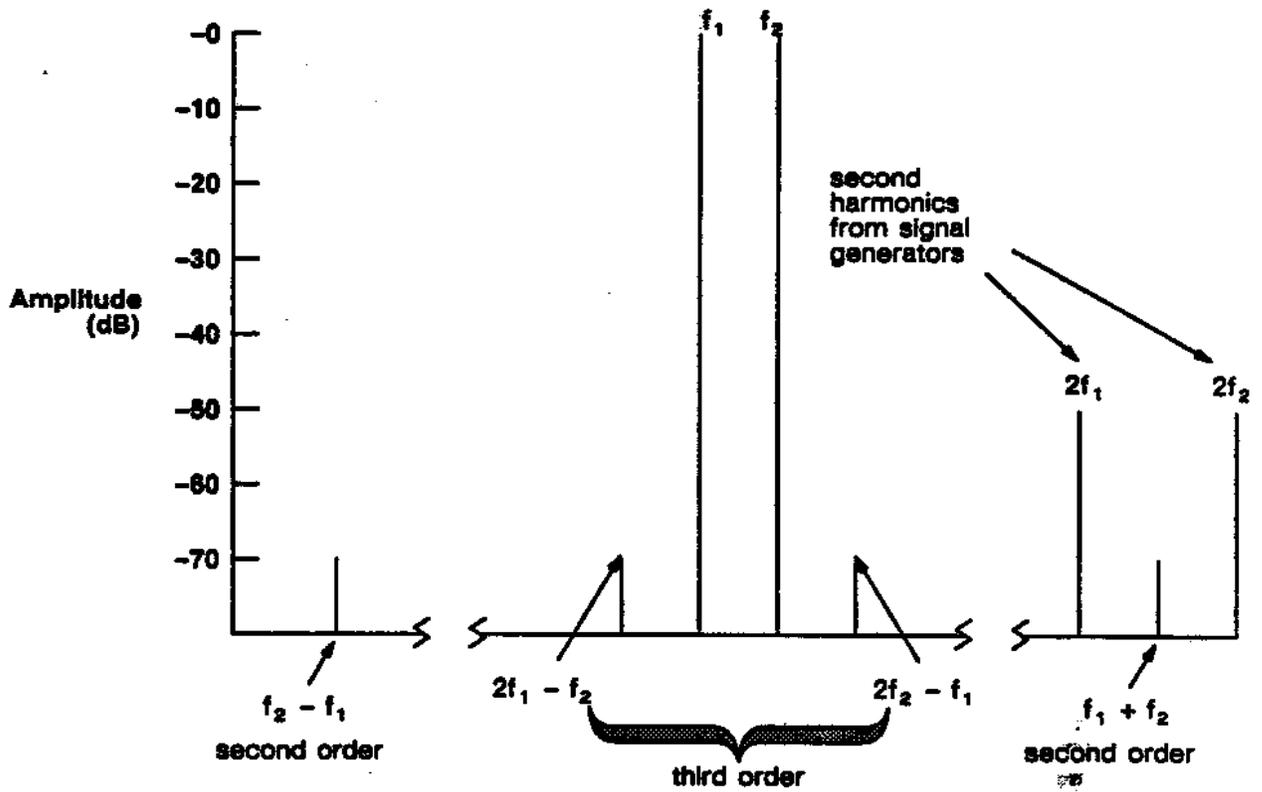

Figure 1-5. Spurious Response—Intermodulation Distortion Products
- Adjust the frequency of both signal generators until signals are two divisions apart and centered on the analyzer display (CRT). Adjust generator output levels to -30 dBm, as displayed on the analyzer. Refer to the example display shown in Figure 1-5.
- Referring to Figure 1-5 and the analyzer display, locate the third-order distortion products, which are approximately three divisions on either side of the signal generator fundamentals. The third-order distortion products ($2f_2 - f_1$ or $2f_1 - f_2$) must have an amplitude of less than -70 dBc.
8. Referring to Figure 1-5, locate the second-order distortion products ($f_2 - f_1$), which are near the left side of the analyzer display. The second-order intermodulation products should be more than -70 dBc.